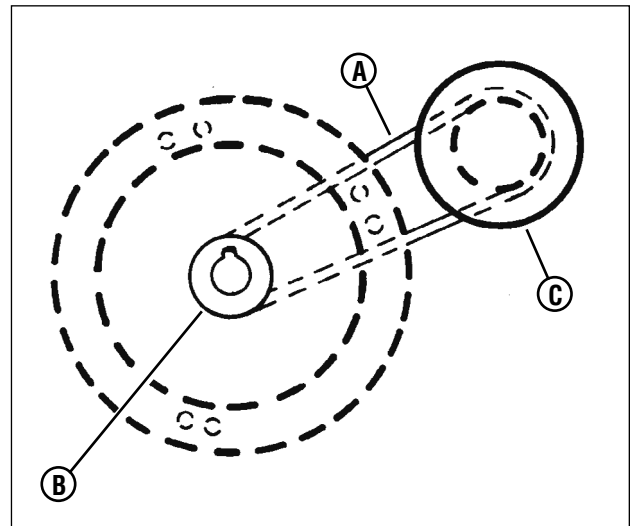

Figure 34: Engine drive belt routing
On self-propelled mowers, the engine belt (A, Figure 34) transmits power from the engine pulley (B) to the drive disc (C). The drive disc powers the poly-v belt, which engages the transmission that powers the rear wheels. Should these belts become worn, they could cause slippage, which would impair mower performance. The condition of the engine belt and poly-v belt should be checked after every 25 hours of mower operation.
2. Note the belt routing (Figure 34). There is no idler pulley on these models to disconnect.